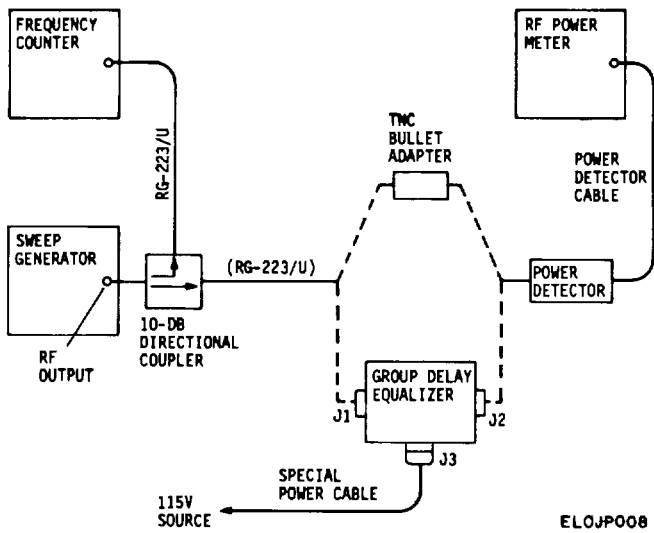

Figure 4-3. Group delay equalizer, gain and ripple test setup diagram
(1) Connect test equipment as shown in figure 4-3, using the bullet adapter in place of the group delay equalizer.
(2) Check that the sweep generator is set for a 90-MHz CW output.
(3) Ensure that all phase-compensating filters are in the *bypassed* position.
(4) Adjust the output level of the sweep generator for a -1 dBm indication on the power meter, with leveling on.
(5) Replace the barrel adapter with the group delay equalizer as shown in figure 4-3. Power meter indication should be between -2 and 0 dBm.
(6) Rotate all parabolic (P) phase-compensating filters to the *active* position.
(7) Rotate all positive linear phase-compensating filters to the *active* position.
(8) Observe the power meter. It should indicate from -2 to 0 dBm.
(9) Rotate all positive linear phase-compensating filters to the *bypassed* position.
(10) Rotate all negative linear phase-compensating filters to the *active* position.
(11) Observe the power meter. Power measurement should be from -2 to 0 dBm.
(12) Return all phase-compensating filters to the *bypassed* position.
(13) Replace the group delay equalizer with the bullet adapter as shown in figure 4-3.
(14) Set the sweep generator to 70-MHz CW.
(15) Repeat steps (4) through (13).
(16) Set the sweep generator to 50MHz CW.
(17) Repeat steps (4) through (12).